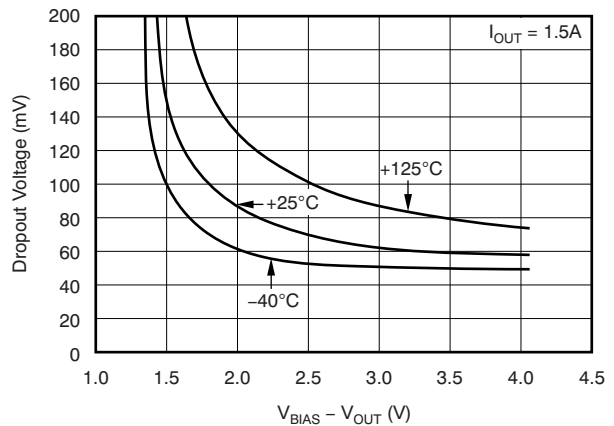

Figure 6-6.  $V_{IN}$  Dropout Voltage vs  $(V_{BIAS} - V_{OUT})$  and Temperature ( $T_J$ )
- (1) Adjustable devices tested at 0.8 V; resistor tolerance is not taken into account.
- (2) Dropout is defined as the voltage from  $V_{IN}$  to  $V_{OUT}$  when  $V_{OUT}$  is 3% below nominal.
- (3) 3.25 V is a test condition of this device and can be adjusted by referring to Figure 6.6.